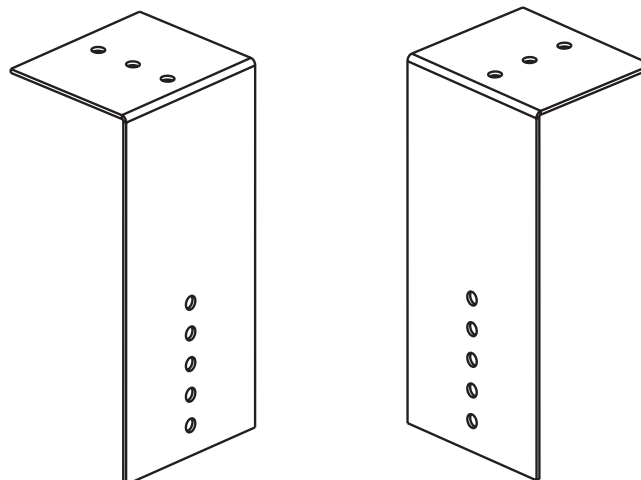

Figure 14. Concentric Adapter Box Brackets
- Secure longer angles on concentric adapter box brackets (see Figure 14) to concentric adapter box.
- b. Position concentric adapter box to match pipe runs and secure short angles of concentric adapter brackets (see **Figure 14**) to underside of roof using field-supplied hardware.